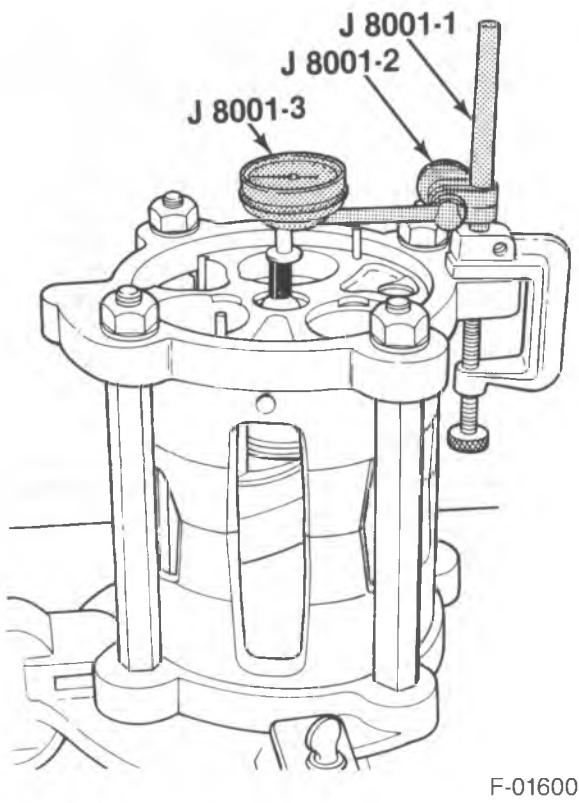

Figure 34—Gaging the Rear Thrust Plate
- 7. Position the dial indicator on the rear of the shaft (39) and adjust to zero (figure 34).